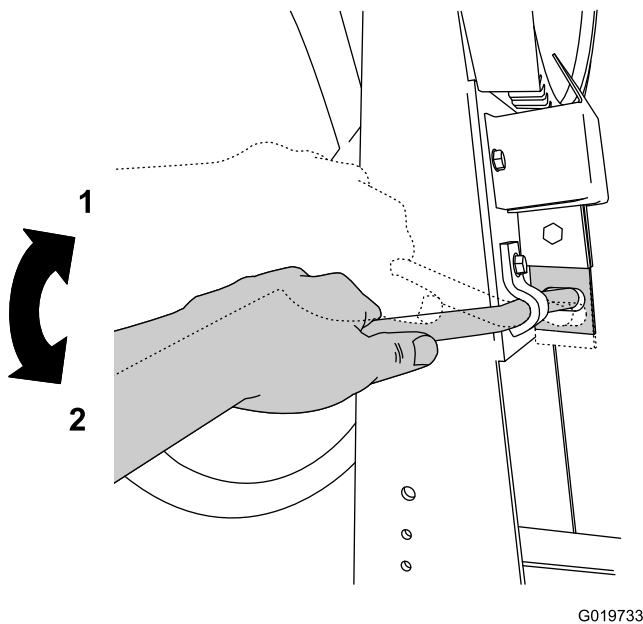

Figure 16
3. Lock the drum into position by pushing down on the drum-tilt brake handle (Figure 16).